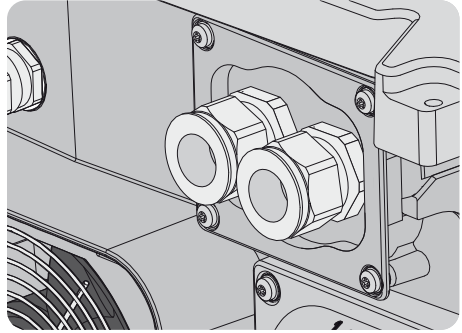

Figure 2.20 DC cable gland
2. Run the cables through the base of the inverter via cable glands. See figure 2.20.